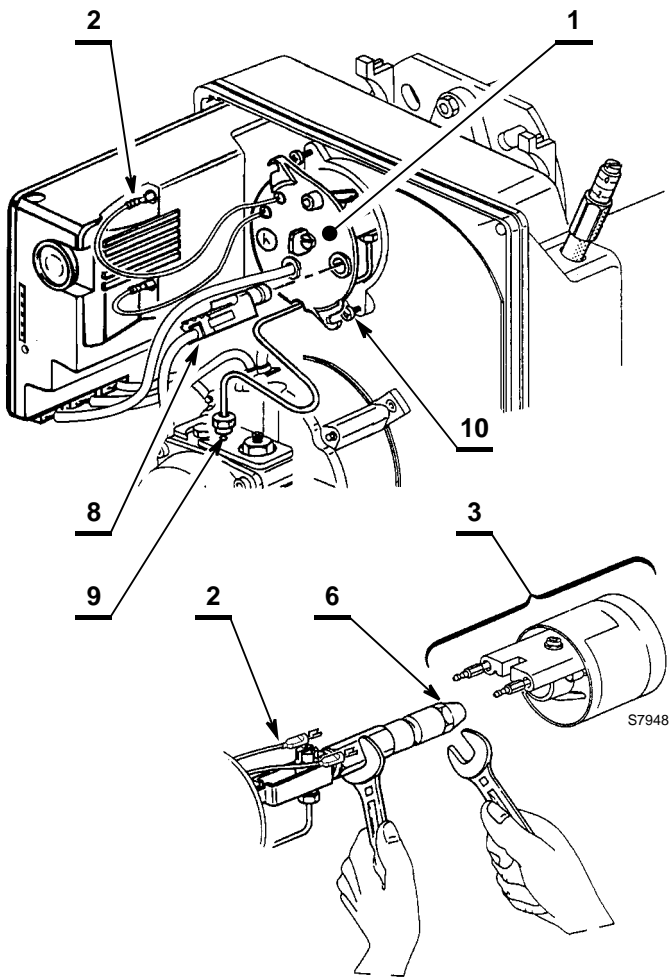
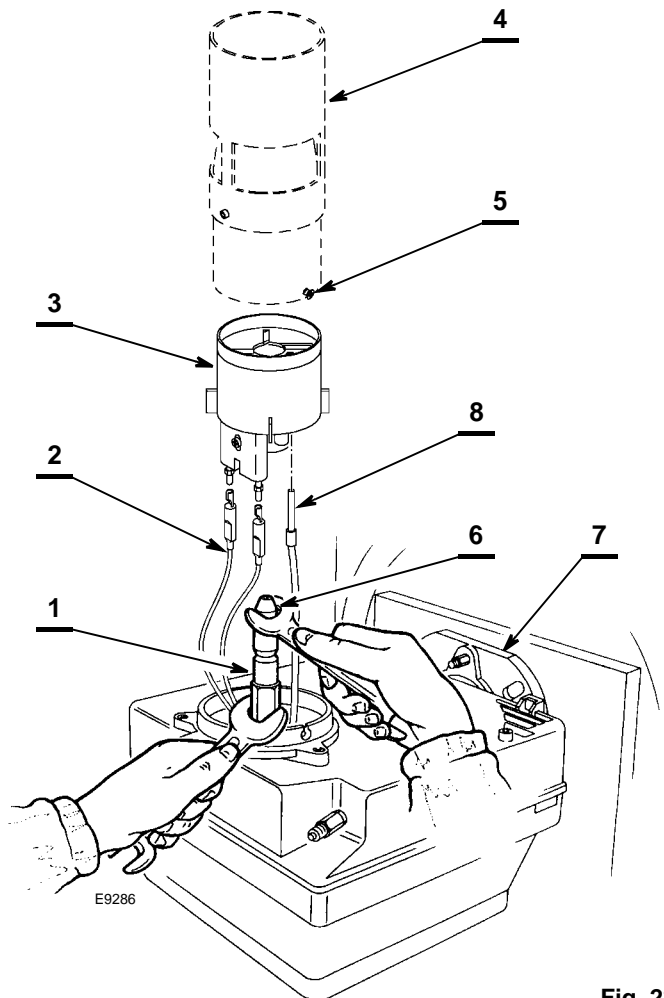

Fig. 21
Fig. 23
Accessibility to the nozzle, the diffuser disc and the electrodes is made easy in 2 ways, see Fig. 21 and Fig. 23:
- Pull the wires 2) (Fig. 21) from the control box and the photoresistance 8) and undo the nut 9) from the pump.
- Hook the burner onto flange 7) (Fig. 23), loosen screws 5) and pull off the blast tube assembly 4).
- Replace nozzle 6) and screw the new one on properly, holding it as illustrated in Fig. 23.